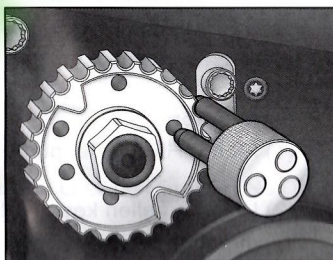

Fig.63
- (1) Using a suitable remover Camshaft Sprocket Remover Tool, release the camshaft sprocket from the camshaft. Ensure the camshaft sprocket is free to rotate on the camshaft.
- (2) Using Crankshaft Adjuster (Part No.A), rotate the crankshaft in the direction of engine rotation to TDC position on No.1 cylinder.
- (3) Screw Crankshaft Locking Pin (Part No.E) fully into the crankshaft timing plug hole and tighten to 20 Nm.
- (4) Position the pump sprocket and lock in position using H.P. Pump Locking Pin (Part No.B). (Fig.63)
- (5) Fit the H.P. diesel pump toothed belt.